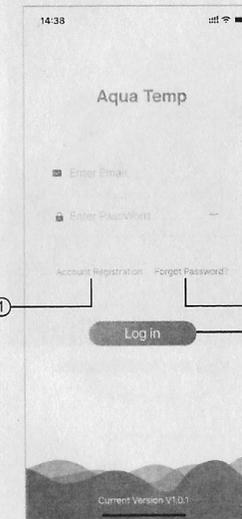
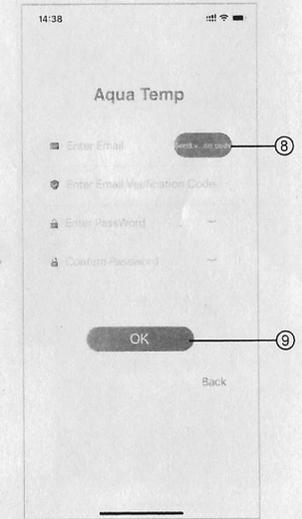

Fig.1 Login interface
Fig.3 Forgot Password interface
1. Account Registration: To register an account, click ① (Fig.1) to jump to the Account Registration interface, fill in the relevant information and click ② to receive verification code, while completed the application information, click ③ to read the details of the Privacy Policy, then click ④ to agree, and click ⑤, registration is done.
2. Log in: Follow the instructions on the page(Fig. 1), enter your registered email address and password, click ⑥ and jump to device list:
3. Forgot Password: While forget your password, click ⑦ (Fig.1), jump to the Forgot Password interface (Fig.3). Follow the instructions on the page, fill in the relevant informations, click ⑧ to receive verification code from your mailbox, click ⑨ to confirm and password reset is done.